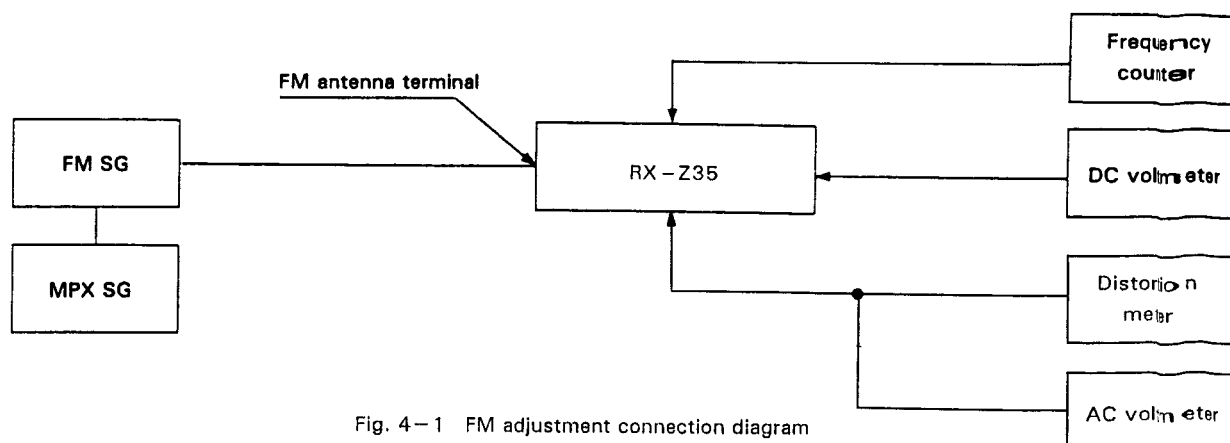

Fig. 4-1 FM adjustment connection diagram
- Connect the tuner as shown in Fig. 4-1.